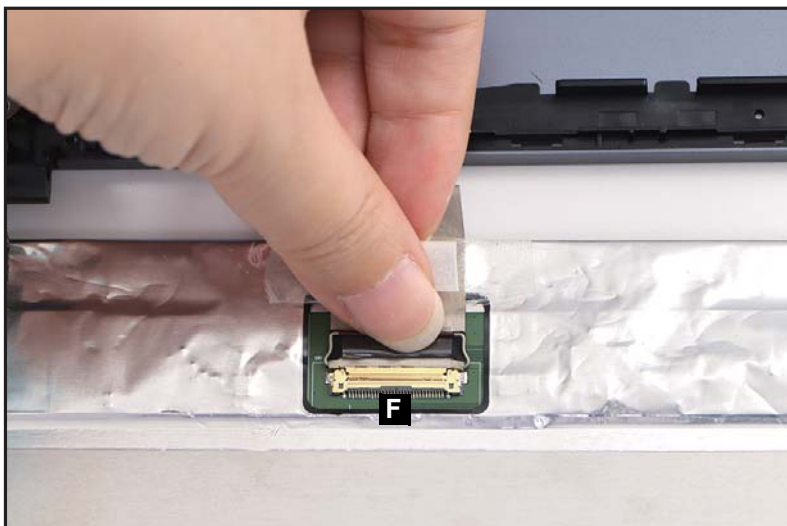

Figure 1-60. LCD Panel Removal
5. Disconnect the eDP cable from the LCD panel connector (F) (Figure 1-60).